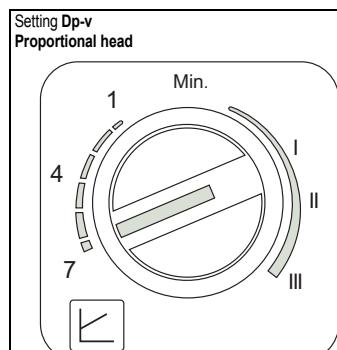

fig. 18
- Proportional Head Dp-v setting (fig. 18)